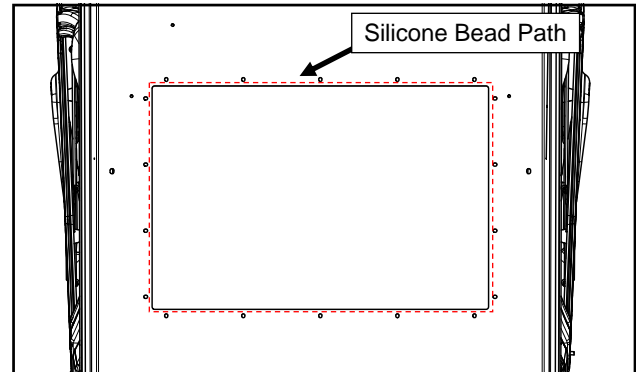

Fig. 4.1 (Apply Silicone)
- 4.1 Apply a bead of silicone along the perimeter of the rectangular opening in the roof (the top, outside surface). The bead shall be inside of the fastener holes as illustrated with the dashed lines of Figure 4.1.